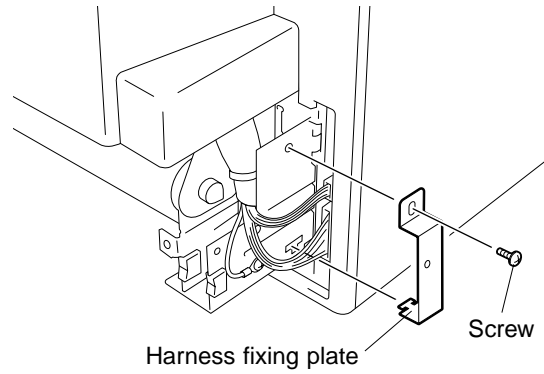

Fig. 6-5
3. Remove ADU. (See Fig. 6-5 to 6-9)
4. Remove ADU. (See Fig. 6-5 to 6-9)